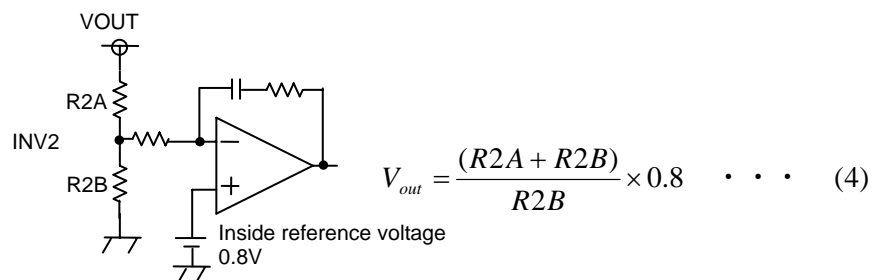

Fig.34 CH2 output setting
The internal reference voltage of the ERROR AMP is 0.8 V. Output voltage should be obtained by referring to Equation (4) of Fig.34.